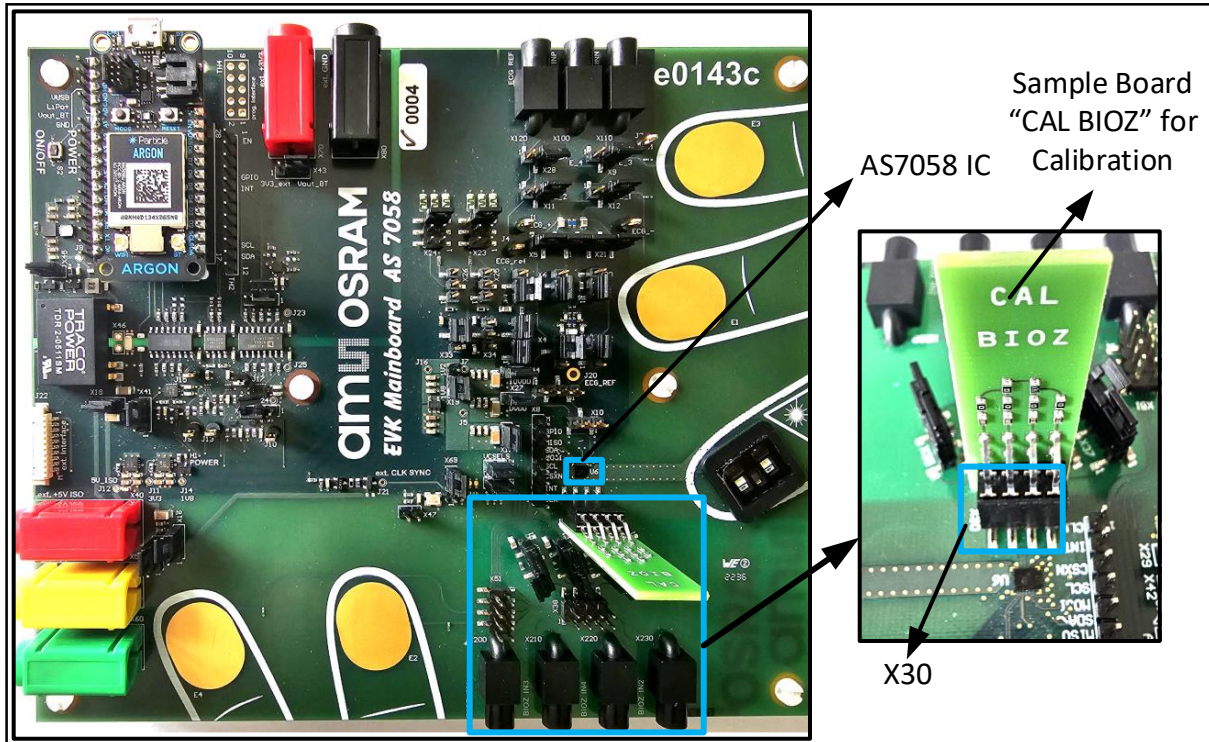

Fig. 18: BioZ Measurement steps
1. Connect the reference board to X30 as shown in Fig. 18.
2. Then, connect the “CAL BIOZ” sample board for the BioZ calibration to the X30 connector (Fig. 18).